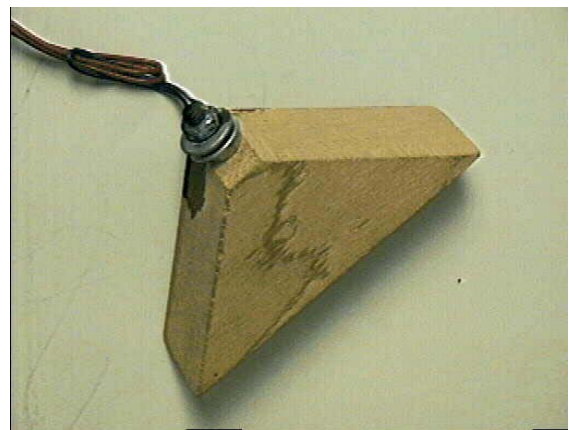

Figure 1 - Loading wedge
- (2) the loading wedge (Figure 1) is a right triangle prism with a base of  $4\frac{3}{4}$  inches, a height of  $2\frac{1}{8}$  inches measured at a right angle between the midpoint of the base and the bottom of the pulling attachment, and a width of  $1\frac{1}{2}$  inches. Please consult the regulation for the specifications for the pulling attachment.